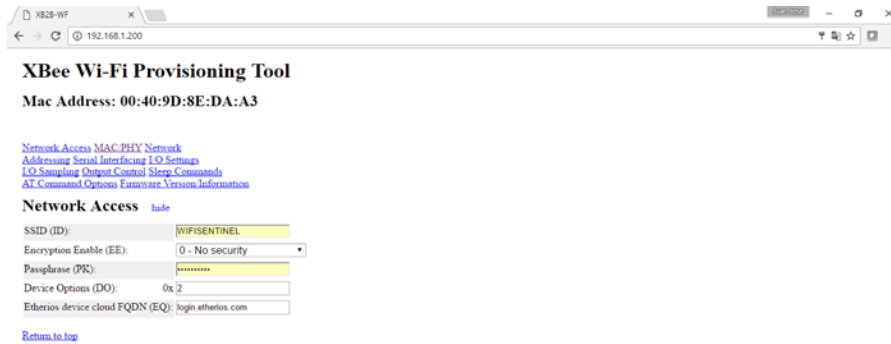

Figure 4.- WFS-1000 Radio Configuration web page
- Once connected to the Xbee-x... network, use a browser to connect to the WFS-1000 radio IP address. A web page as shown in figure 4 will be displayed.
- SSID (ID): Type the ID to the Access Point where the WFS-1000 will be connected.
- Encryption Enable (EE): Select 2- WPA2 (AES) security
- Passphrase (PK): Set the Access Point password
- In the addressing section set the: “Module IP address” (MY) to the IP address to be assigned to this radio and the “Destination IP address” (DL) to the WFS-1000 master radio IP Address. If this is the WFS-1000 master radio, then set broadcast IP address for this network (xxx.xxx.xxx.255). Set the “Source Port” (C0) to 2617 if this is the WFS-1000 master radio or to 2616 if this is a slave radio, and set the “Destination port” (DE) to 2616 if this is the master radio or to 2617 if this is the slave radio. Also configure the “IP Address of Gateway” (GW) to match the Access Point IP address where the WFS-1000 will be connected, and set the “IP Address Mask” (MK) to 255.255.255.0. Do not change any other configuration parameter.